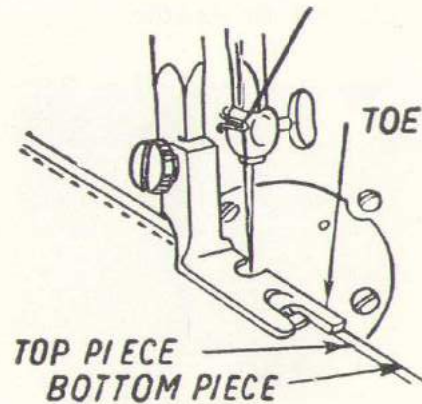

Fig. 34
1. Lay two pieces of cloth one on top of the other with their **RIGHT** sides facing each other. The right edge of the bottom piece must extend about  $1/8$  inch beyond the right edge of the top piece. See (Fig. 34).
2. Sew both pieces of cloth together. Use the right edge of long toe of hemmer foot to guide the bottom piece of material, while the left edge of the same toe serves as a guide for the top piece of material. (Fig. 34).